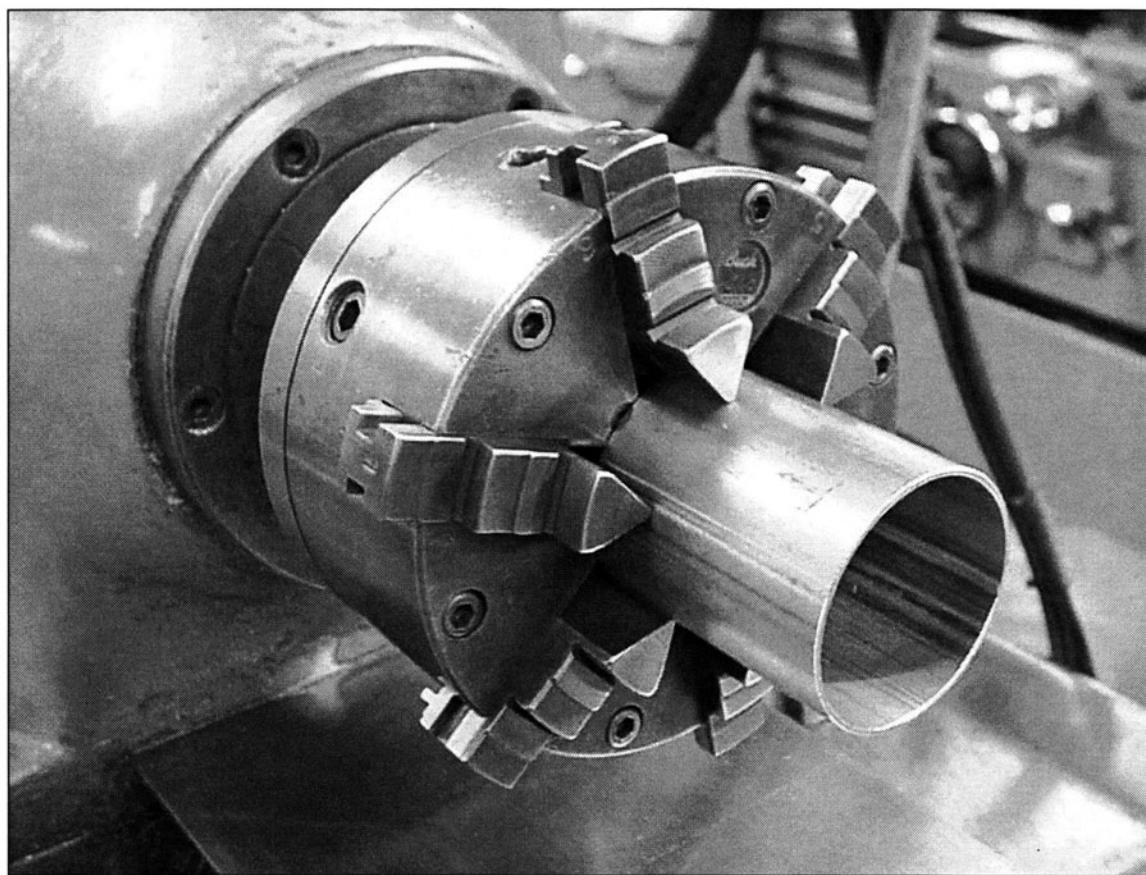

FIGURE 4-5 Six jaw chucks spread clamping pressure over a greater area than three jaw chucks. Six jaw chucks are great tools for holding lathe work.
7. Use a six-jaw chuck in a lathe for gripping finished surfaces. (See Fig.4-5)